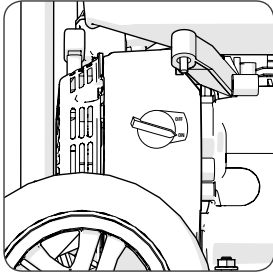

Fig 5
- Stop the Engine by turning the ignition switch to the 'OFF' position. **(Fig. 5)**